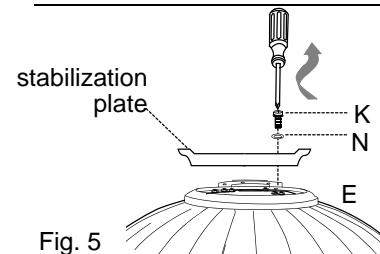

Fig. 5
5. Remove motor screws (K) and lock washers (N) from underside of motor. Remove and discard blue motor stabilization plate. [Fig. 5]